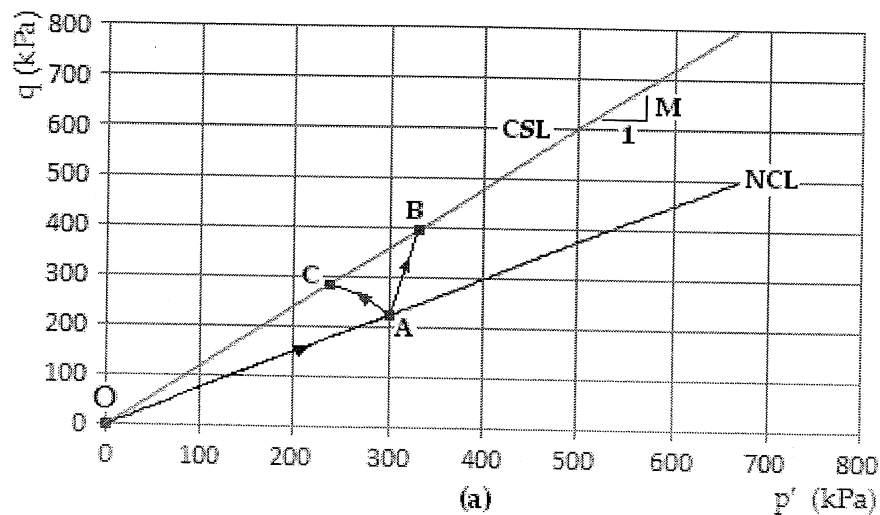

Fig. 6C
- C. Explain Normal Consolidation Line and Critical State Line. Fig. 6C plots two stress paths, OAB and OAC. Explain stress-path segments OA, AB and AC. (5 points)